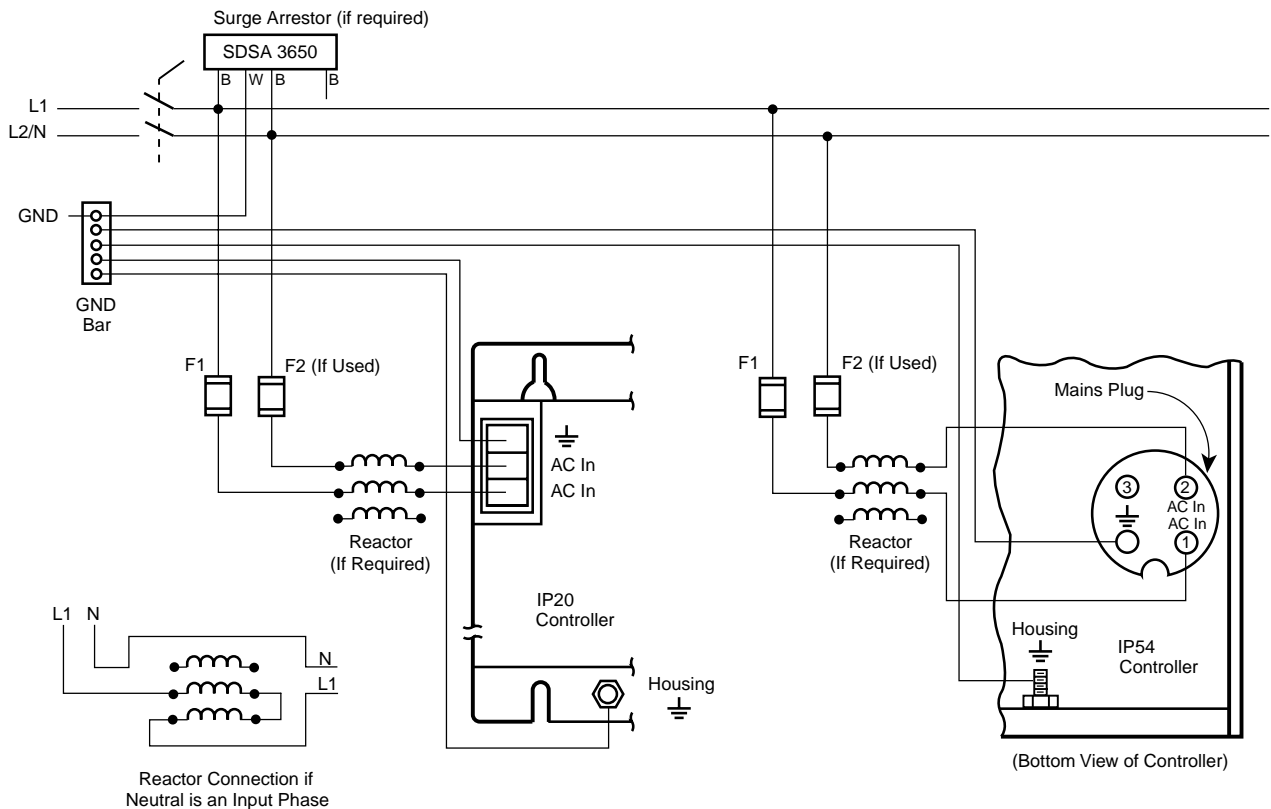

Fig. 4.7 Mains connection for single-phase controllers
► Connect the controller as shown in Fig. 4.7. A disconnecting means must be installed on the branch circuit feeding the controller. **Use of a surge arrester is recommended! Refer to section 3.2.1 for a recommended arrester.**
- Ground the controller as shown. Due to the magnitude of the leakage current, compliance with EN50178 requires the presence of an additional grounding connection. The additional grounding connection should connect the controller housing to the enclosure grounding bar as shown in Fig. 4.7.
- Install fuses as shown in Fig. 4.7. Refer to section 3.2.1 for required fuses. If the power system neutral is an input phase to the controller, do not install a fuse in the neutral conductor.
- When a reactor is required, use the reactors specified in section 3.2.4. The specified reactor is a three-phase design. One coil is left unconnected. If the power system neutral is an input phase to the controller, connect two reactor coils in series with the L1 phase as shown in Fig. 4.7. Do not connect a reactor coil in the neutral conductor.